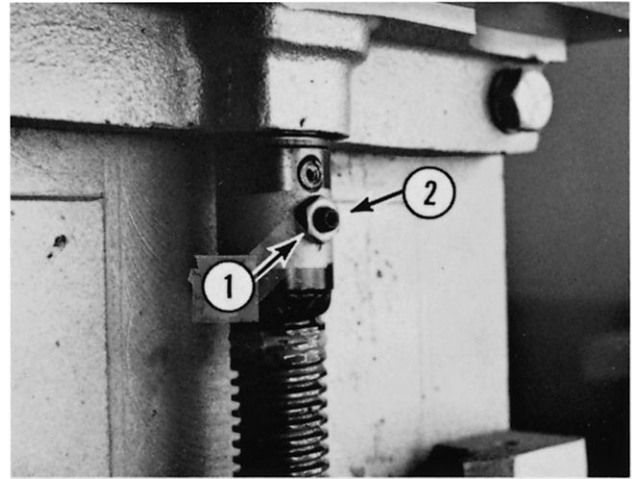

Fig. 12-8
D. If the mixer is equipped with a safety screw, loosen the jam nut (1, Fig. 12-8) and back out the stop screw (2, Fig. 12-8).